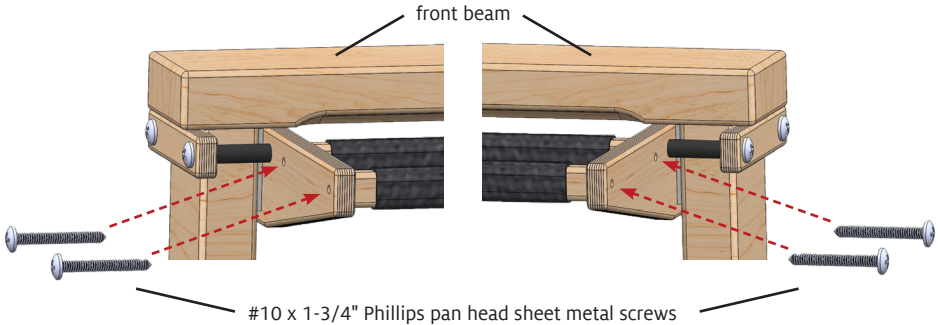

FIGURE 5: ATTACH CROSS RODS
8. Set the cloth sleeve in place between the rod supports, as shown in Figure 5 on the next page. Have a helper hold it in position, or rest it on your loom bench or small table.